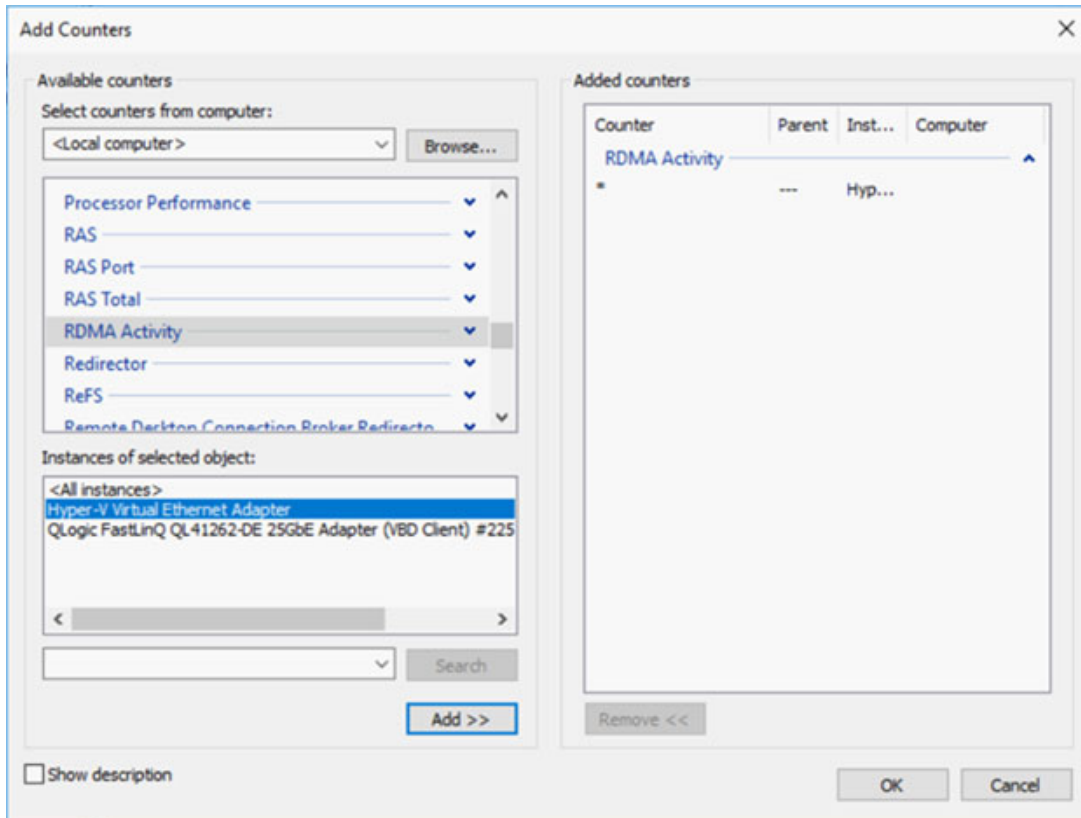

Figure 15-5. Add Counters Dialog Box
2. Complete the Add Counters dialog box (Figure 15-5) as follows: